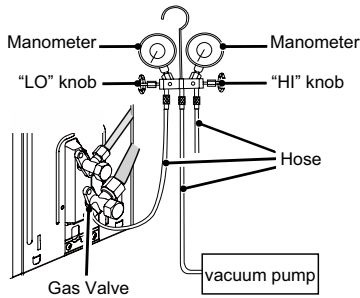

Fig.7
3. As shown in the following figure (Fig.7), expel the gas inside the indoor unit and refrigerant pipe out by the vacuum pump.